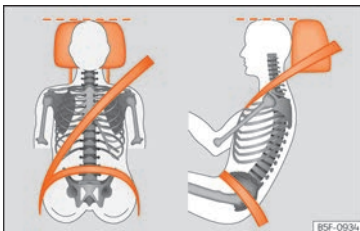

Fig. 89 Correctly adjusted head restraint as viewed from the front and the side.
- Adjust the head restraint so that its upper edge is, as far as possible, at the same level as the top of your head, or at the very least, at eye level »» **Fig. 89**.